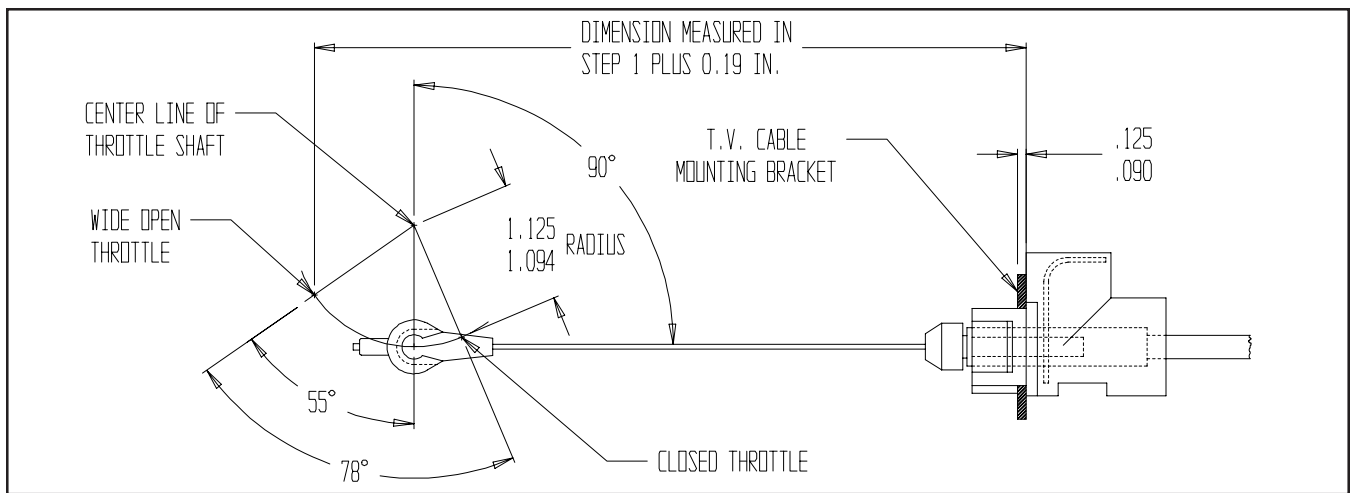

FIG. 5
**STEP 2.** Add 3/16" (0.19 in.) to the measurement obtained in **Step 1**, this is the perpendicular measurement from the REAR FACE of the T.V. cable mounting bracket to the WIDE OPEN THROTTLE position of the T.V. cable connector pin on the throttle bellcrank (see Fig. 5).
**STEP 3.** The T.V. cable bellcrank must be perpendicular (90 degrees) to the T.V. cable when the throttle is 25 percent (1/4) open (see Fig. 5), this geometric relationship is